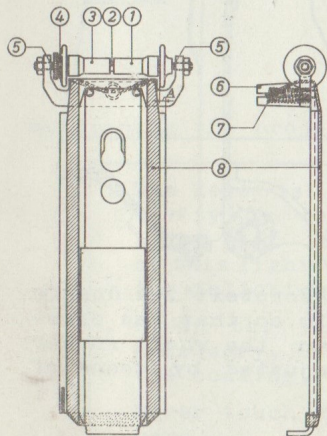

Fig. 23
1. Description (fig. 23)
4. Application of the velvet tape (fig. 23)